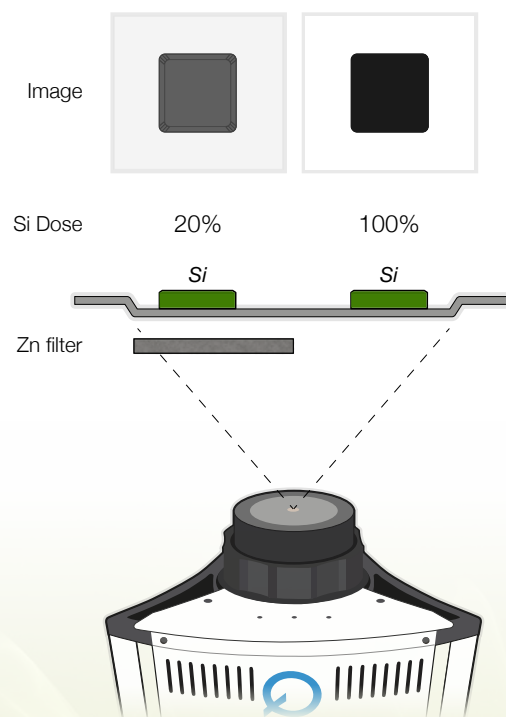

Figure 6: Absorbed dose and image quality for a typical silicon sample with filtering tray (left) and without (right).
- **A filtering sample tray** is available for Quadra™ which incorporates zinc strips to absorb low energy X-rays while letting higher powers pass through to the sample. This can reduce overall X-ray dose by up to 80% (figure 6).